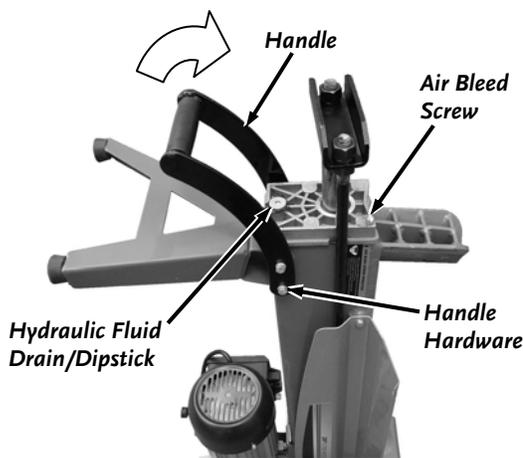

Figure 14
2. Tip the machine up vertical on the Wheels (you may need to have someone support the splitter to prevent tipping over). Clean the area around the Hydraulic Fluid Fill/Drain Port (**Figure 14**) and then, using a 6mm Allen Wrench, unscrew and remove the Dipstick located in the Hydraulic Fluid Fill/Drain Port.